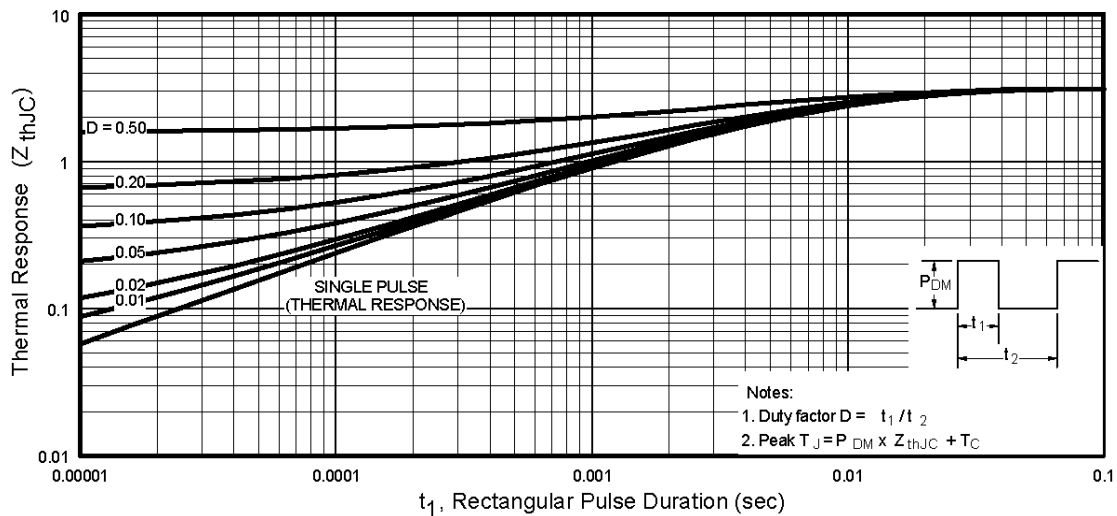

Fig 11. Maximum Effective Transient Thermal Impedance, Junction-to-Case
- ① Repetitive rating; pulse width limited by max. junction temperature. (See fig. 11)
- ② $V_{DD} = 25V$, starting $T_J = 25^\circ\text{C}$, $L = 4.7mH$